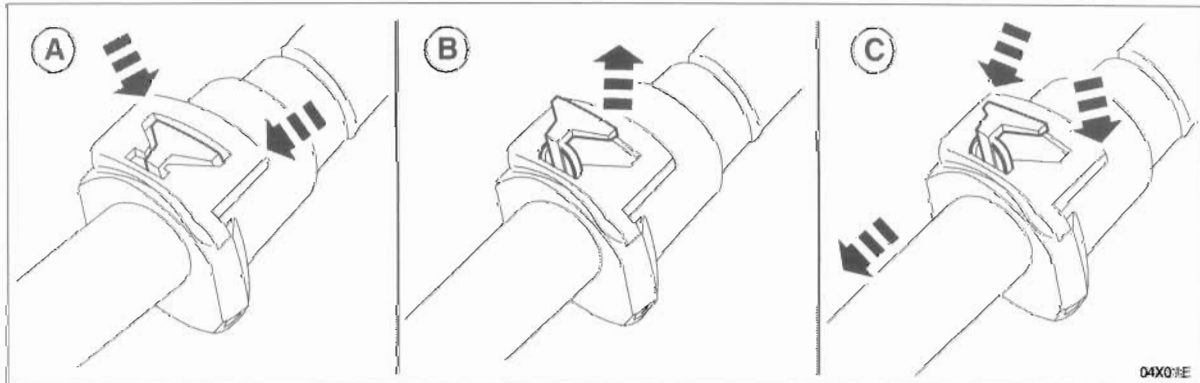

FIGURE 4
1. To disconnect: See Figure 4.